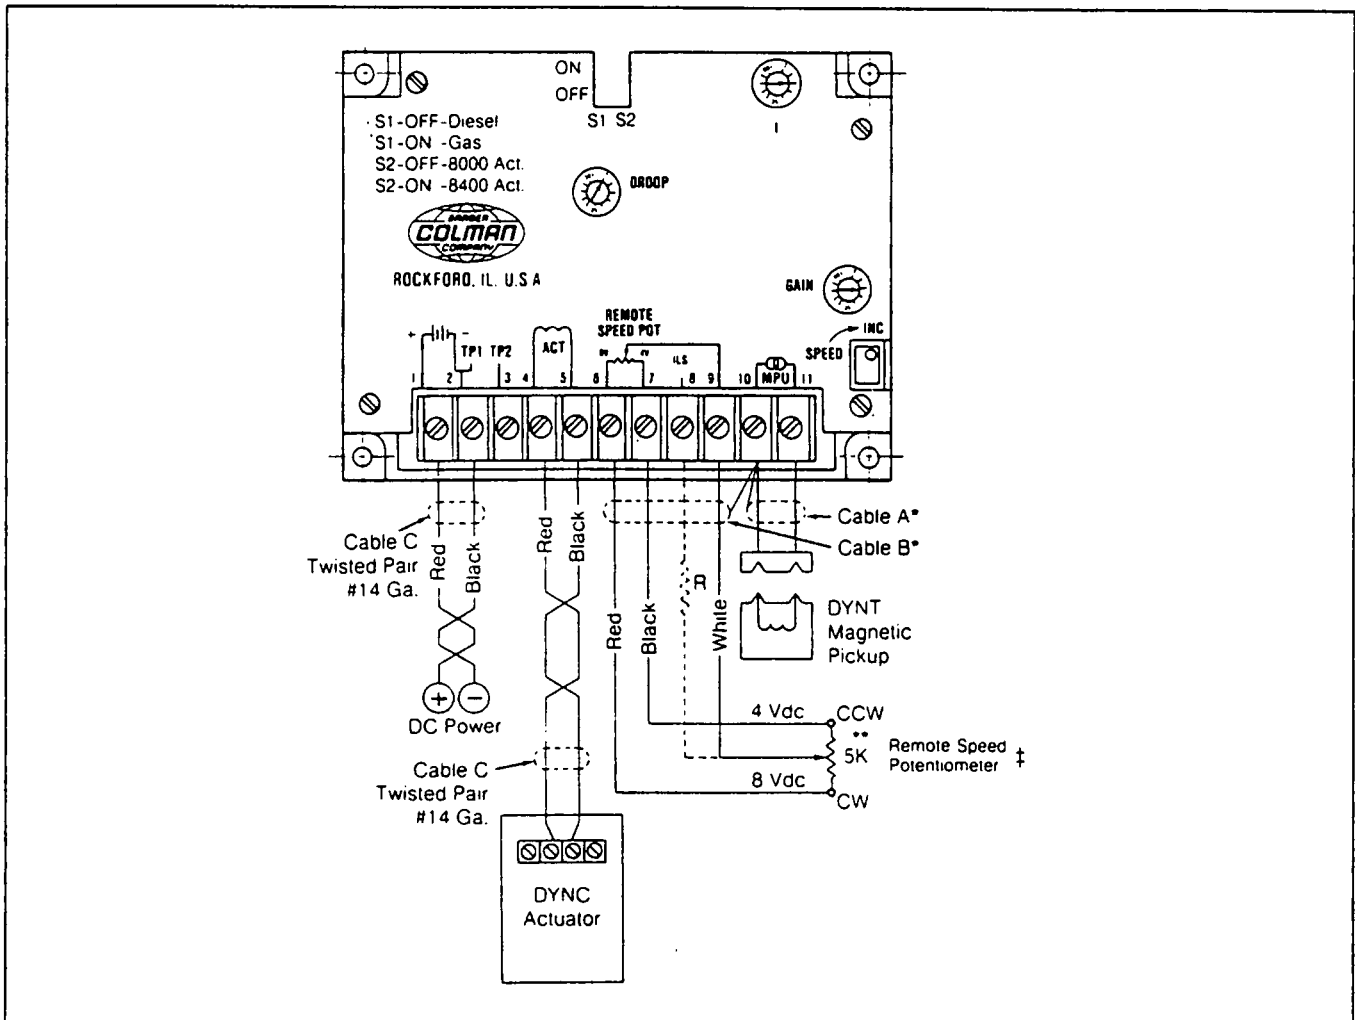

Figure 2. DYNA 8000 Governor System
a. For isochronous operation, set DROOP counterclockwise to its minimum position as shown in Figure 2.
An optional remote speed selector is available for adjusting engine speed from up to 300 feet (90 meters) from the unit. See terminals 6, 7 and 9 in Figure 2.